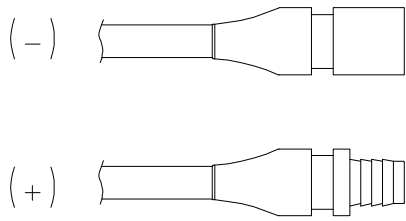

Fig. 9 MC connector
- 4) The plugs are marked with the respective polarity (see Illustration). The MINUS pole is minus-coded; the PLUS pole is plus-coded (Fig. 9).